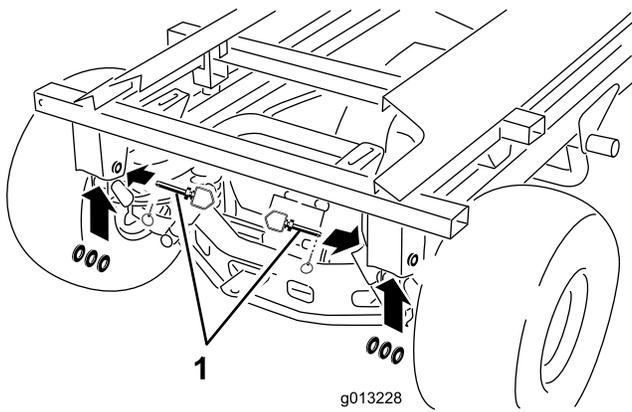

Figure 43
10. Remove the rear lynch pins, hitch pins and washers (Figure 43).